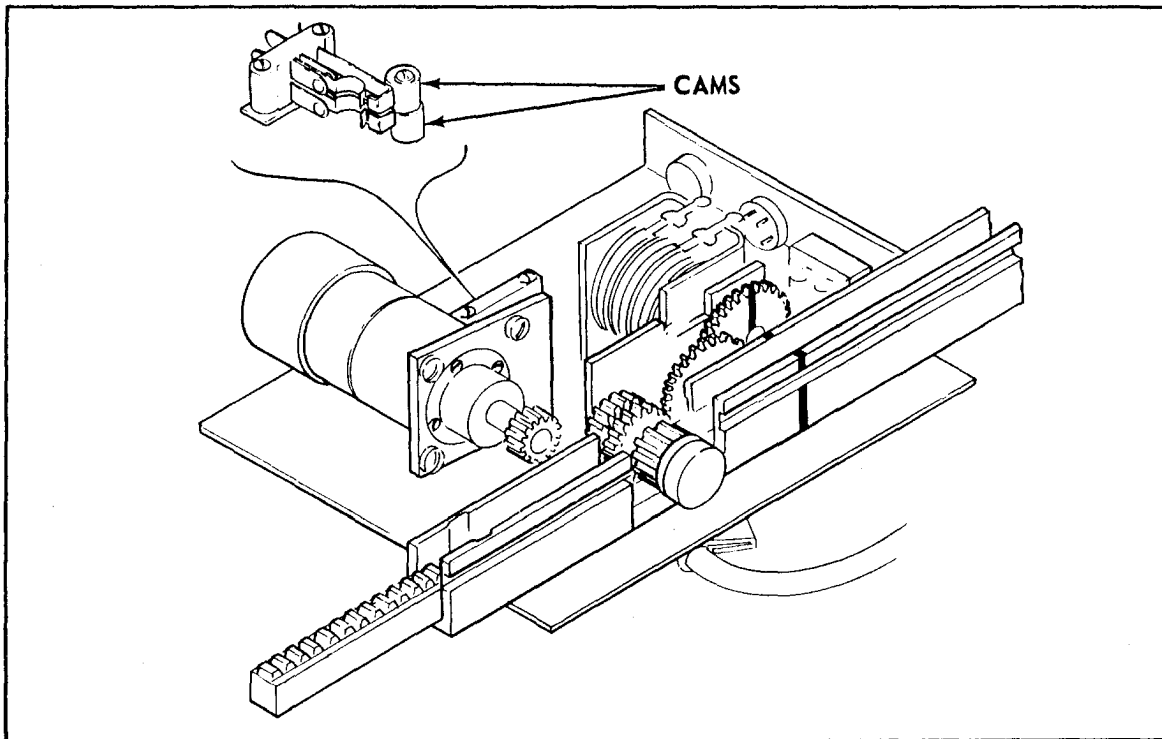

Figure 10-3. Switch Adjustment Cams
10-5. ADJUSTMENT OF PITCH SERVO SELECTOR SWITCH AND PITCH AUTOPILOT SERVO MOTOR SWITCH. (Refer to Figure 10-3.)
- a. Switch Adjustment Procedure. (Refer to Figure 10-3.)